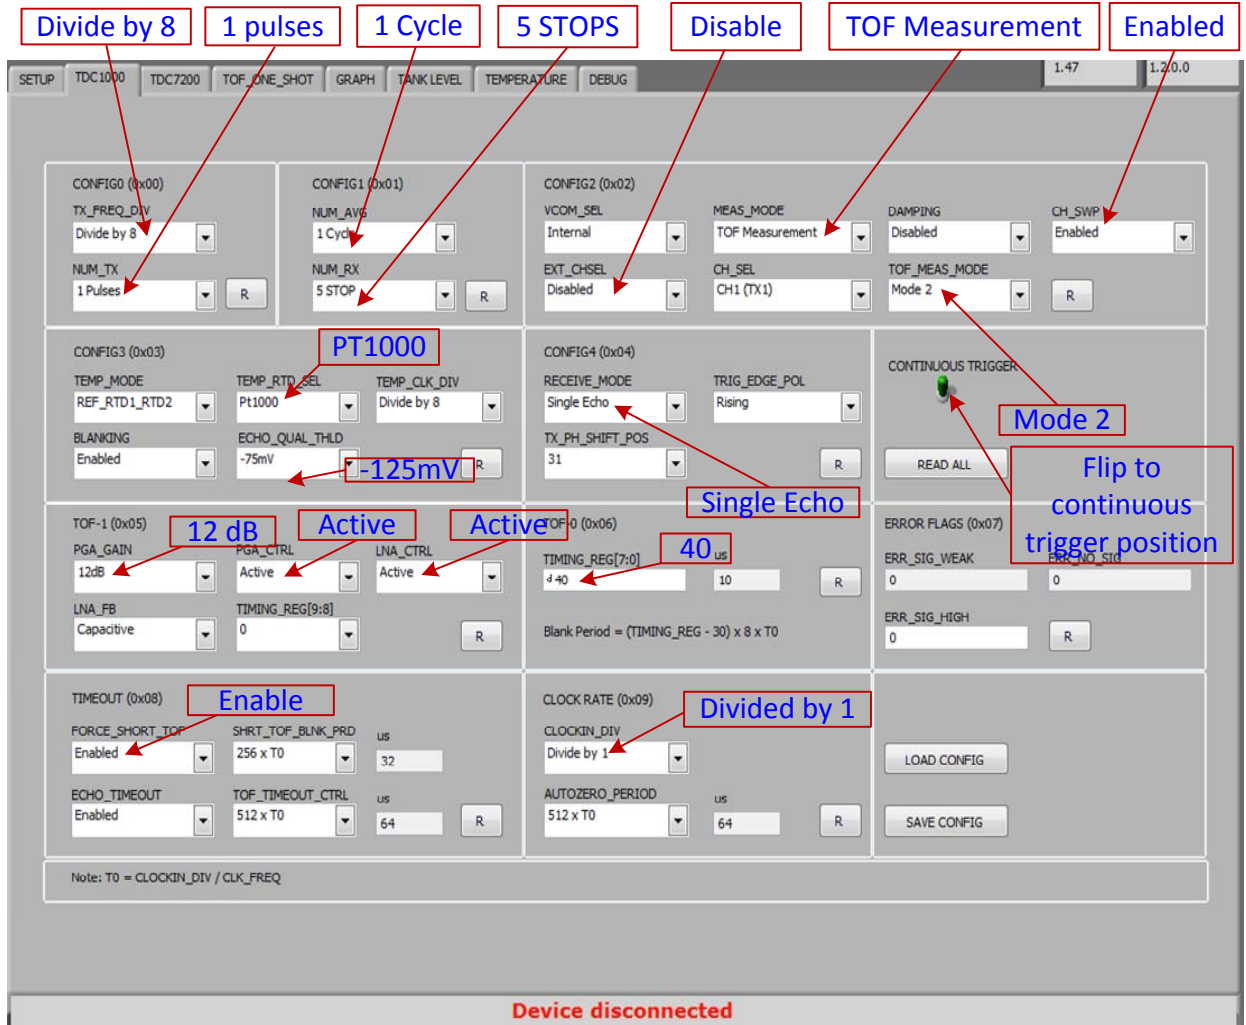
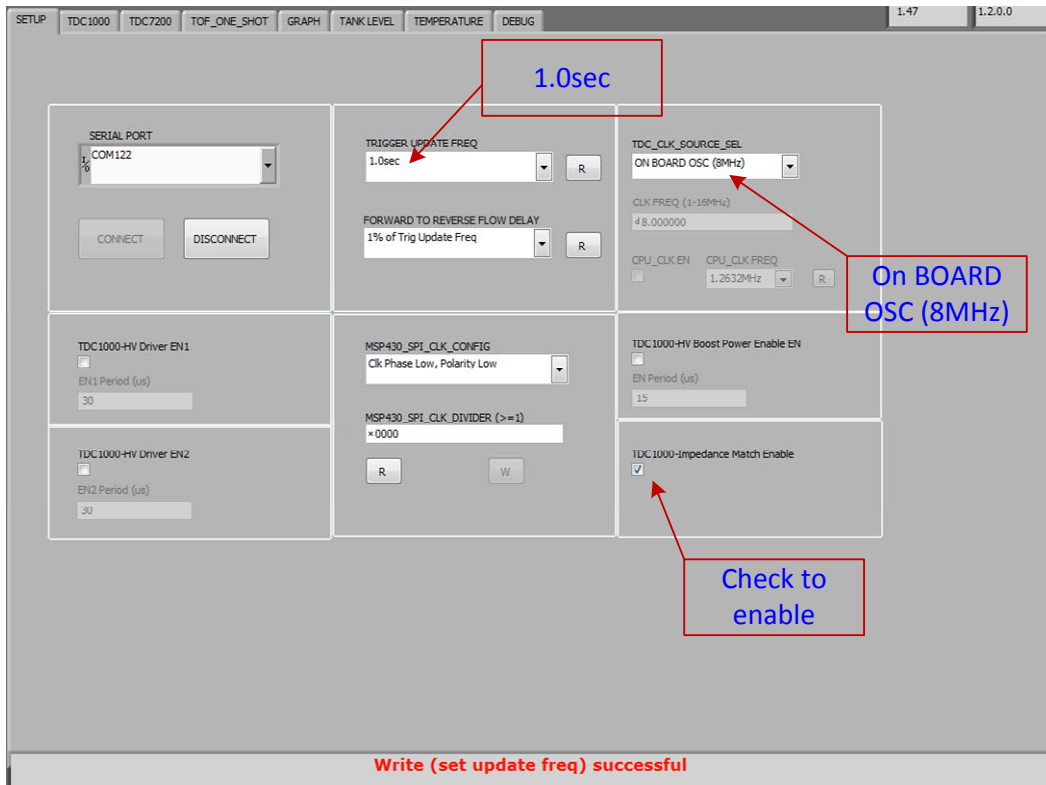
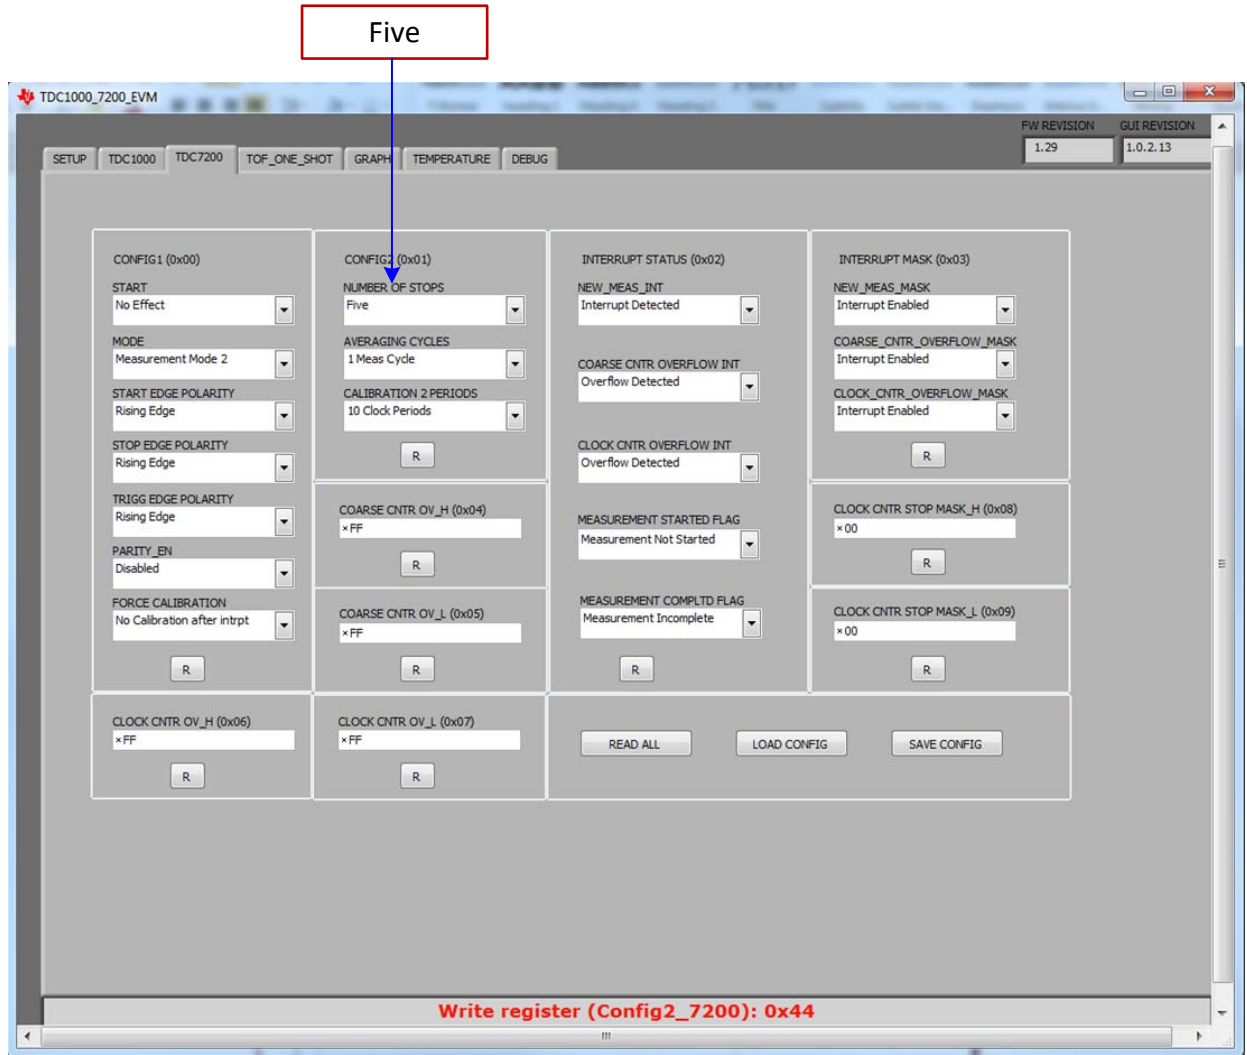

Figure 6: TDC1000 setup menu in the GUI
Figure 7: Sampling interval setup
Figure 8: TDC7200 registers setup
- Set the registers in the "SETUP" and "TDC1000" menu to the values shown in Figure 6, Figure 7, and Figure 8. Flip the "CONTINUOUS TRIGGER" switch to the top position (switch will turn to green from red indicating that the system is running).